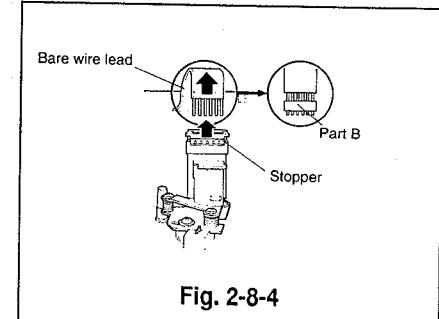

Fig. 2-8-4
- ③ Lift the stopper of the A/C head assembly in Fig. 2-8-4 slightly upward and disconnect the lead connector (bare wire), connecting the PCB-HA/AUDIO and the PCB-A/C-HEAD.
- ⑤ Shift part B of the bare wire lead extended from the head amp slightly downward, lower the stopper, and connect it to the connector on the PCB-A/C-HEAD. (Refer to Fig. 2-8-4)